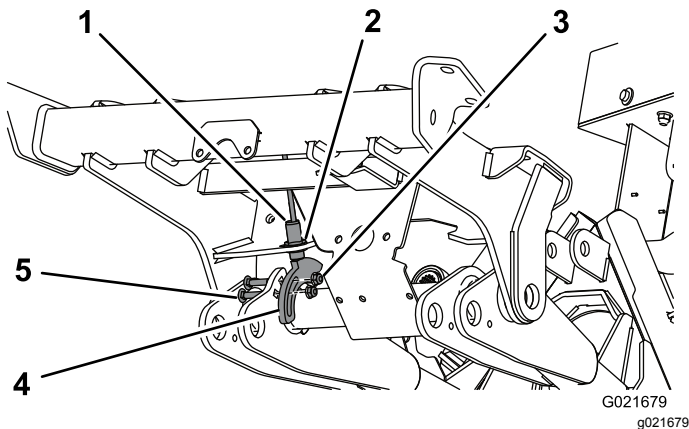

Figure 14
- Using the hole in the bottom of the front frame, loosely mount the proximity switch with the washers and jam nuts (Figure 14).
- Position the sensor plate as shown in Figure 14.